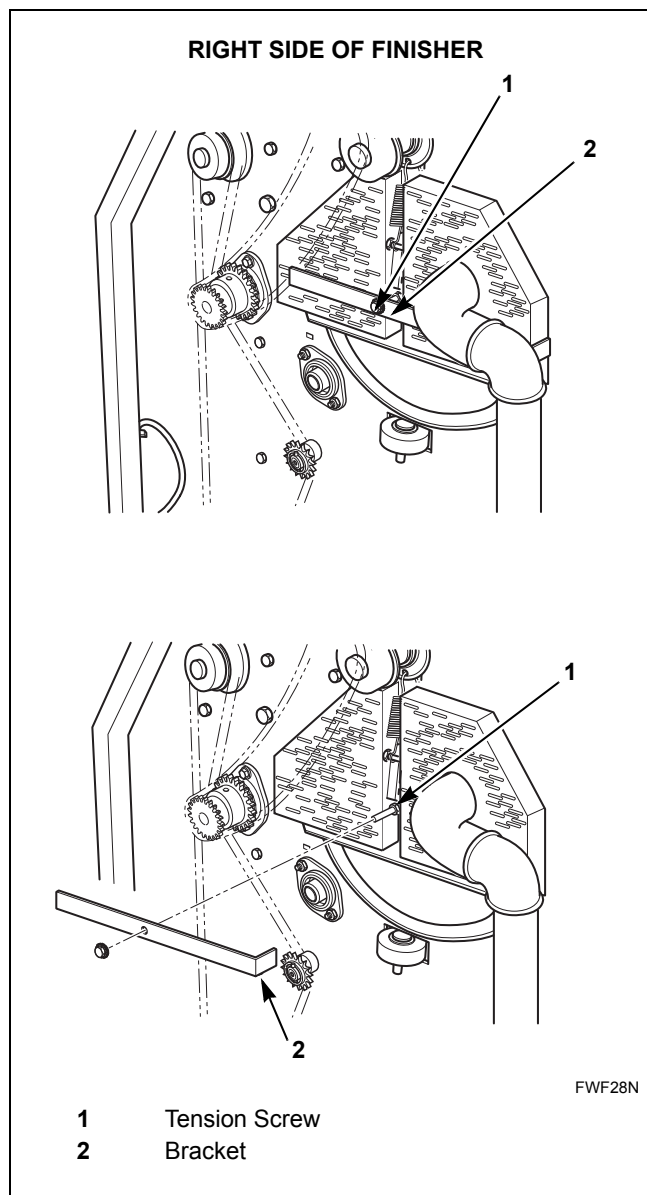

Figure 33
2. Locate the return ribbon tension systems on each side of the finisher. Refer to *Figure 33*.